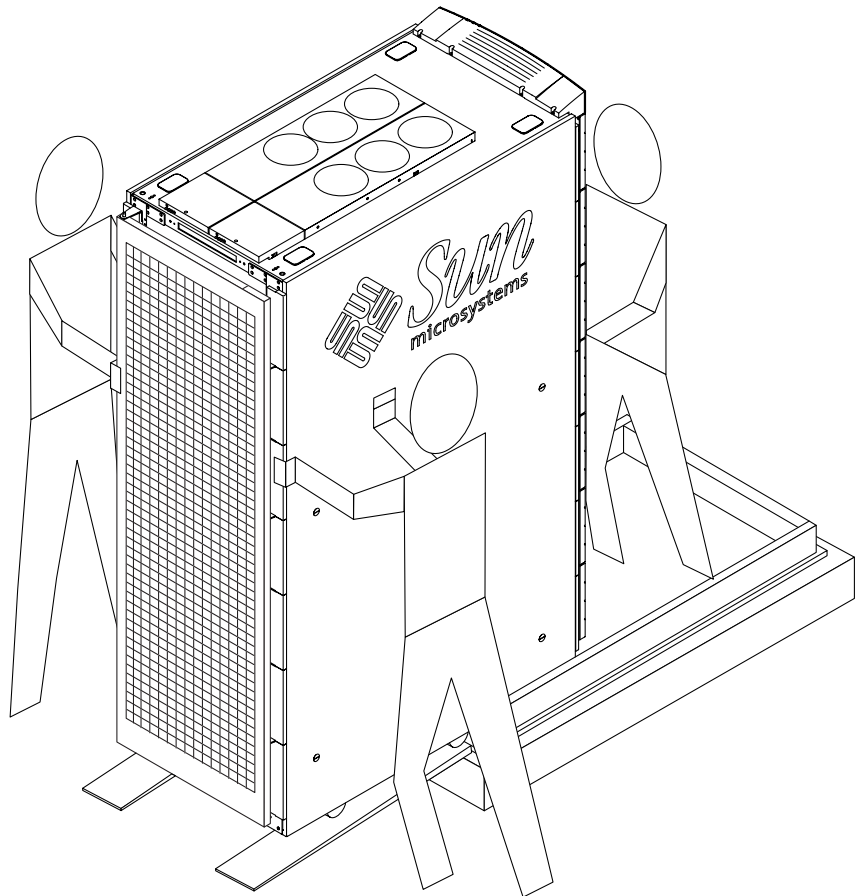

FIGURE 2-5 Moving the Sun Fire 6800 System Off the Shipping Pallet
9. Move the system carefully down the ramps (FIGURE 2-5).